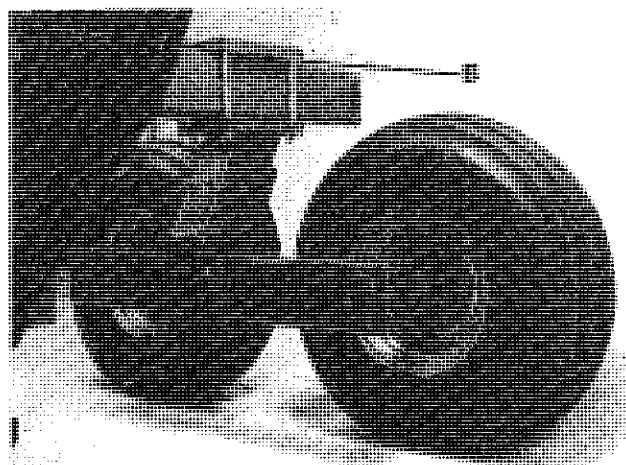

FIGURE 44 - WALKING BEAM CARRIER WHEEL
Now position the right walking beam carrier wheels according to figure 10, page 11. Use two, one or no leveling plates (B) depending on field conditions, to adjust height of walking beam so machine runs parallel to ground at digging depth (see figure 44). The right wheels can be positioned one of two different ways, depending on row spacing. The support can also be moved several inches on the bar, within each one of the positions (see figure 10, page 11). For steerable wheel assembly, see figure 11, page 12.